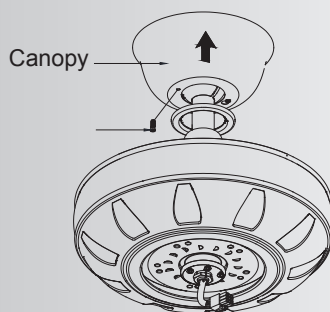

Fig. 14
Step 2. Assemble canopy by rotating key slot in canopy over shoulder screw in mounting bracket. Tighten shoulder screw. Fully assemble and tighten second shoulder screw that was previously removed. (Fig. 14)